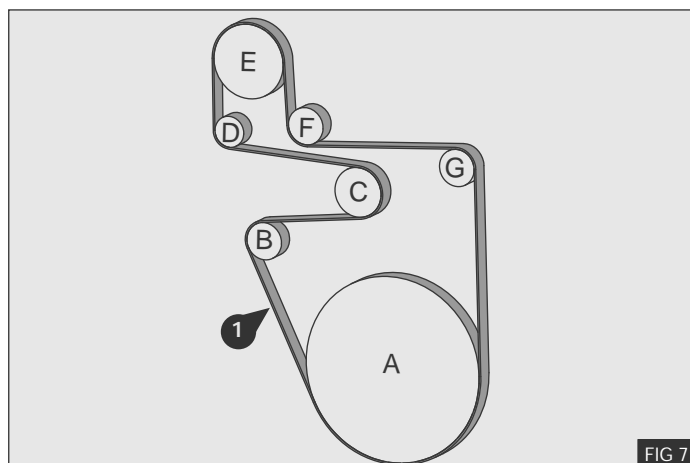

FIG 7
1. Fit the supplied poly groove drive belt ① to the configuration shown - Fig 7.